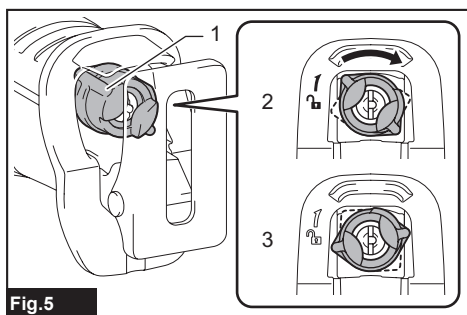

Fig.5
► **Fig.5:** 1. Blade clamp lever 2. Released position 3. Fixed position